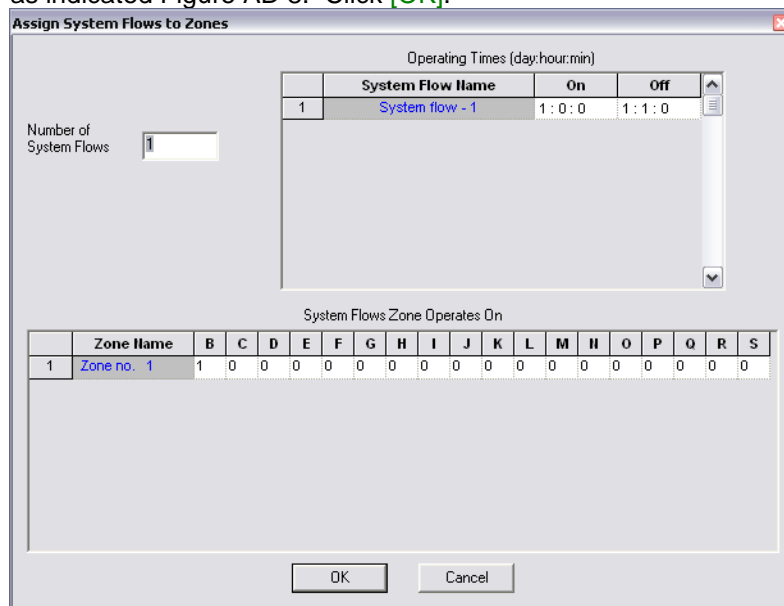

Figure AD 8
20. Now we wish to assign the zones to system flows. Select *Design|Assign All Zones to One System Flow* as we only have one Zone (control valve or block). You will notice that "Area no. 1" will operate on **System Flow 1** as indicated Figure AD 8. Click **[OK]**.